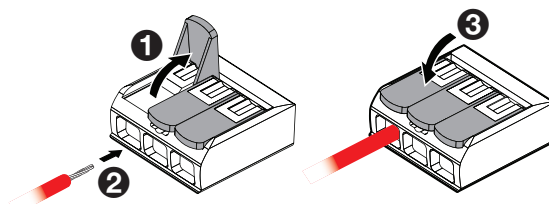

Figure 18. 3-pole Splicing Connector
7. Connect the four swaged steel cable ends from the kit through the speaker cap and to the hook (see figure 18, ③ page 16).
- b. Lift one lever of one 3-pole splicing connector ① and insert the stripped end of the red amplifier or speaker wire into an empty pole of the connector ②. Press the lever down to lock the red wire in place ③. Repeat this process for the red/black amplifier or speaker wire (see figure 18).